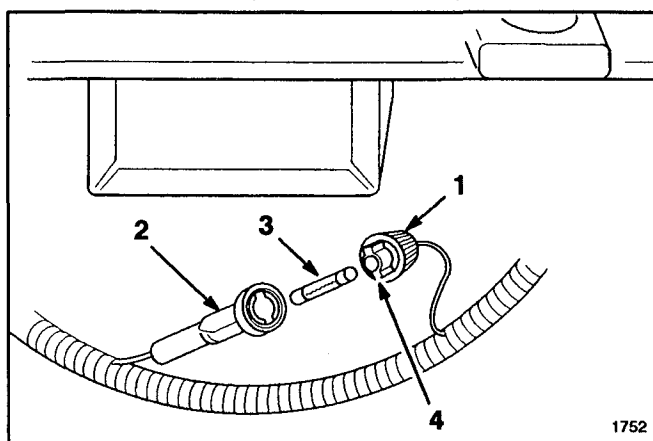

Figure 31
1. Push the two fuse holder sections together. Rotate fuse holder cap to open fuse holder (Fig. 31).